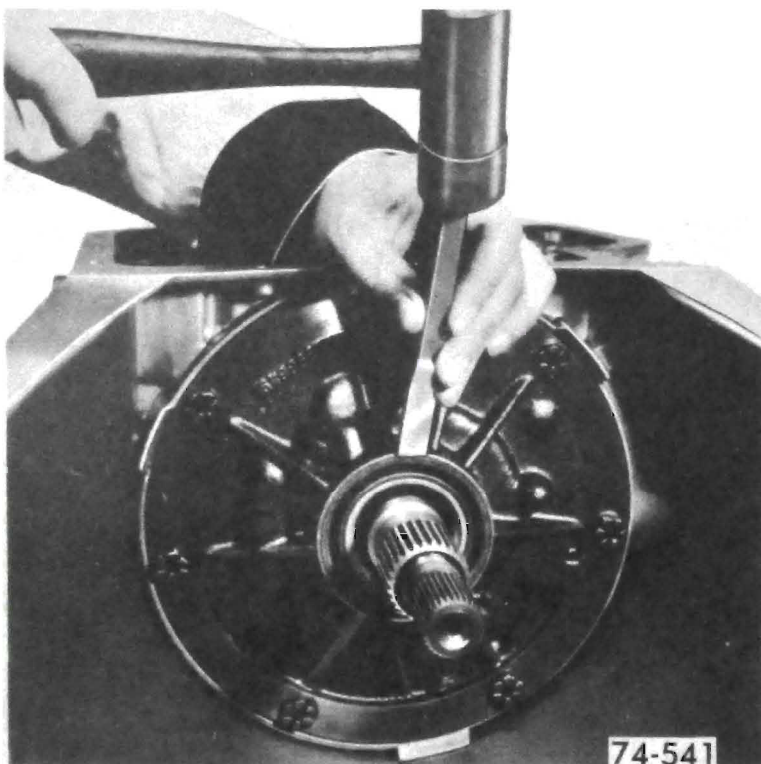

Figure 76-85
1. If seal replacement is necessary, pry seal from pump. See Figure 76-85.